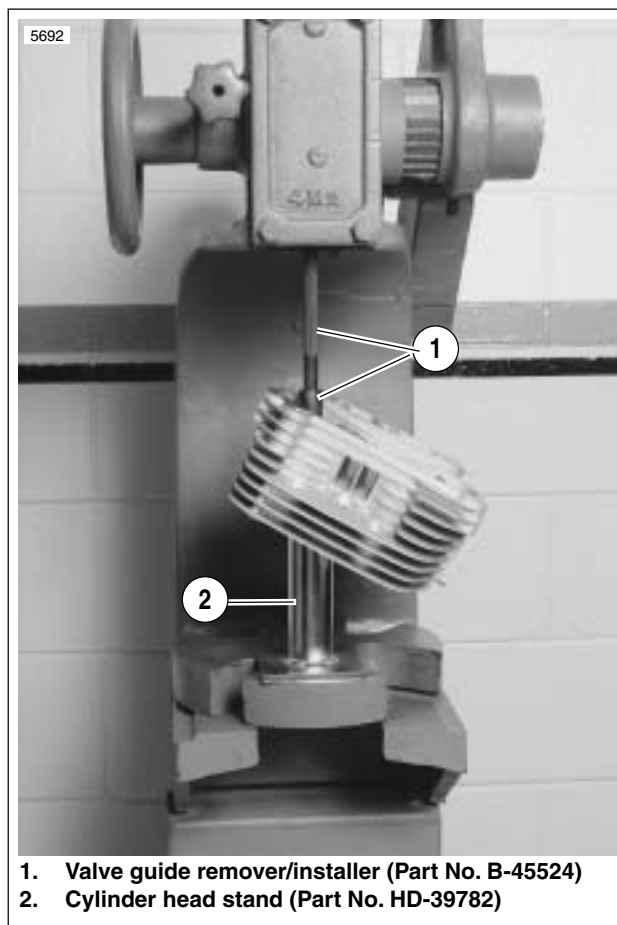

Figure 3-76. Installing Shoulderless Valve Guide
4. See Figure 3-76. Install shoulderless guides using VALVE GUIDE REMOVER/INSTALLER TOOL (Part No. B-45524). Press or drive guide until the tool touches the machined surface surrounding the guide. At this point, the correct guide height has been reached.